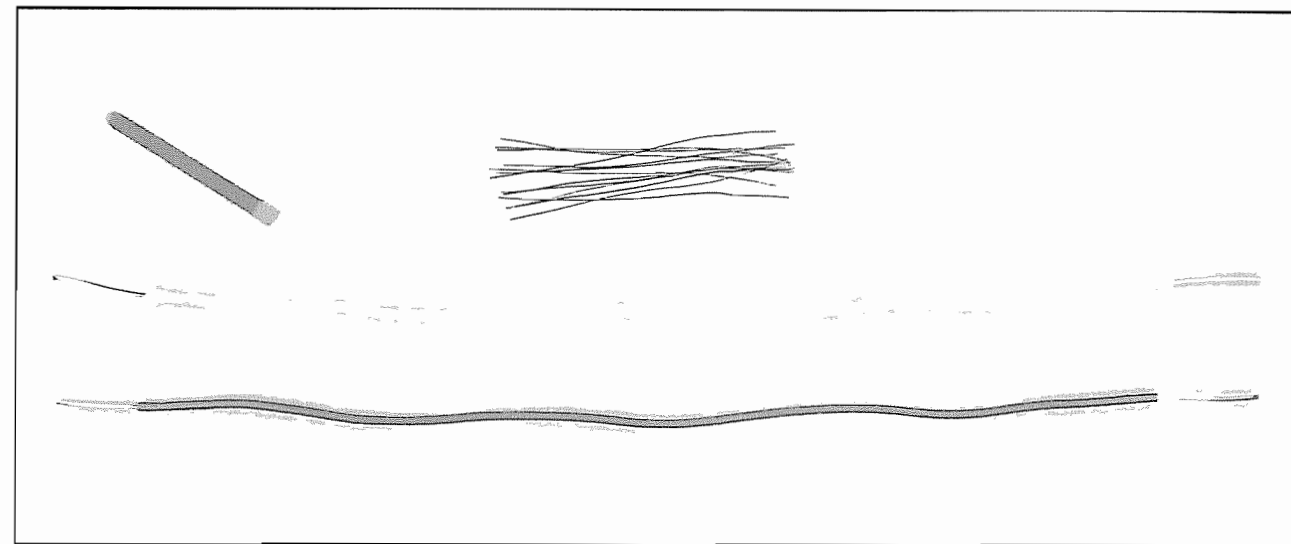

Figure 17-3. Two lead wires, a pile of fuse wires, a paper match, and a piece of masking tape. These are the things you'll need to make a paper-match igniter.
1. Separate an 8" length of doorbell wire into a red and a white strand. Then strip the ends of each strand back about 1/2". I call these strands "lead wires" (pronounced "leed"). Strip the plastic from the end of a length of stereo speaker wire, and cut the multistrand wire inside into a pile of single strands about 2" long. Hereafter I'll call these thin, *bare* wires, "fuse wires". Cut or tear off a single paper match, and cut a 3/4" square of masking tape (Figure 17-3).